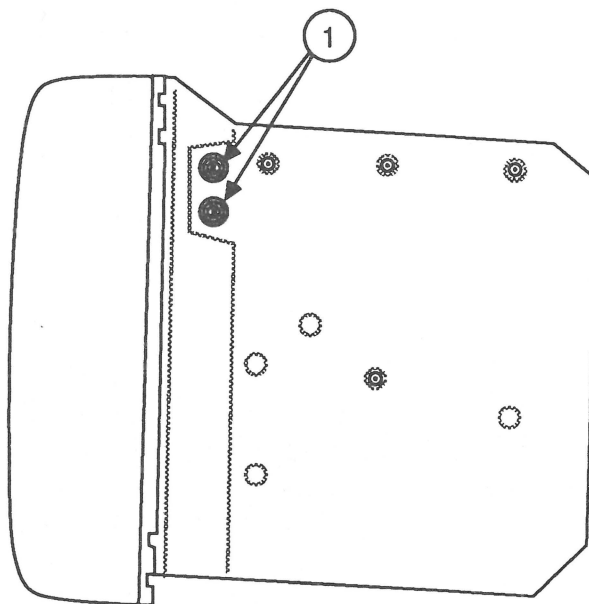

FIGURE 31
8. Using the adjustable wrench, remove the two hex nuts (Figure 31, #1) that secure the contrast-brightness assembly to the chassis frame.